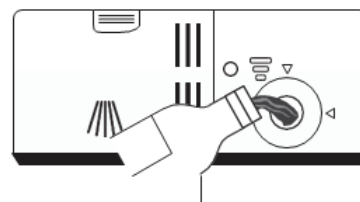

Figure 10- Filling the Rinse-aid reservoir.
Step 2 Carefully pour the dishwasher rinse-aid into the reservoir, whilst being careful to avoid it overflowing. Refer to Figure 10.